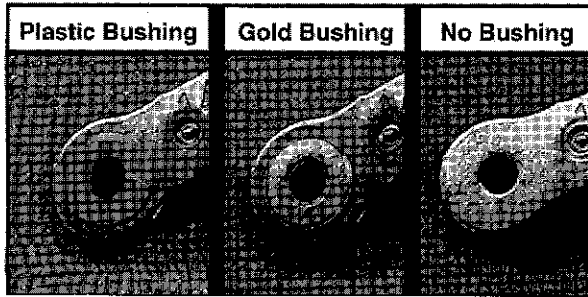

Figure 2
5. Identify current bushing and refer to matrix to determine appropriate repair procedure (white plastic bushing, gold colored metal bushing, or check arm with no bushing) (Figure 2).